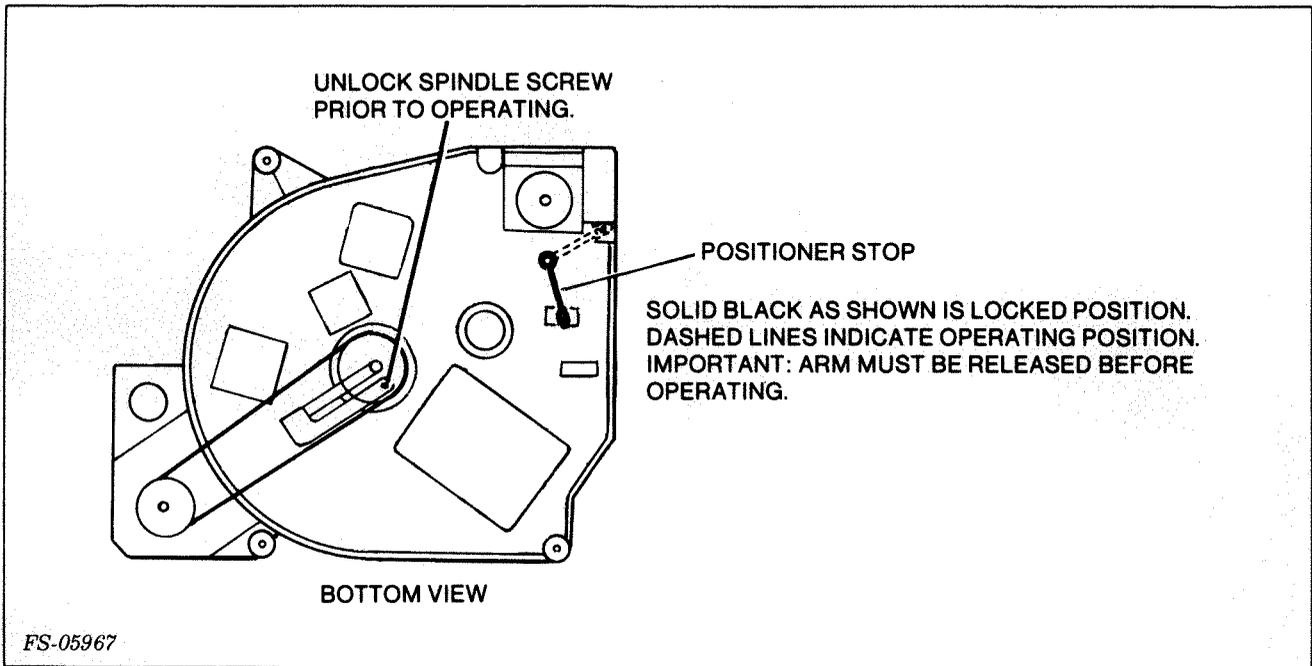
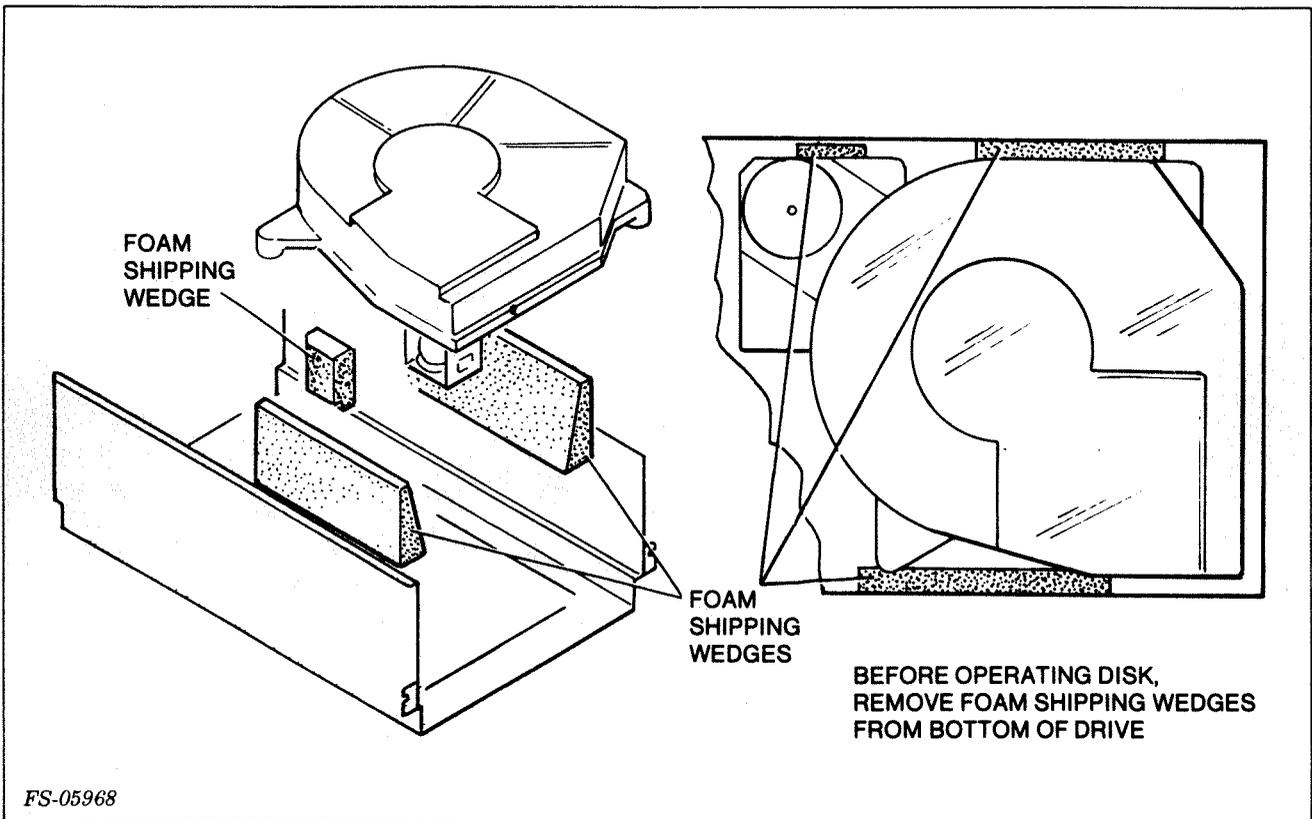

Figure 6-7. Sealed Data Module Shipping Restraint
Figure 6-8. Disk Subsystem Shipping Restraints
3. Release and unlock the sealed data module shipping restraints as shown in Figure 6-7 and the shipping restraints shown in Figure 6-8 for the subsystem.